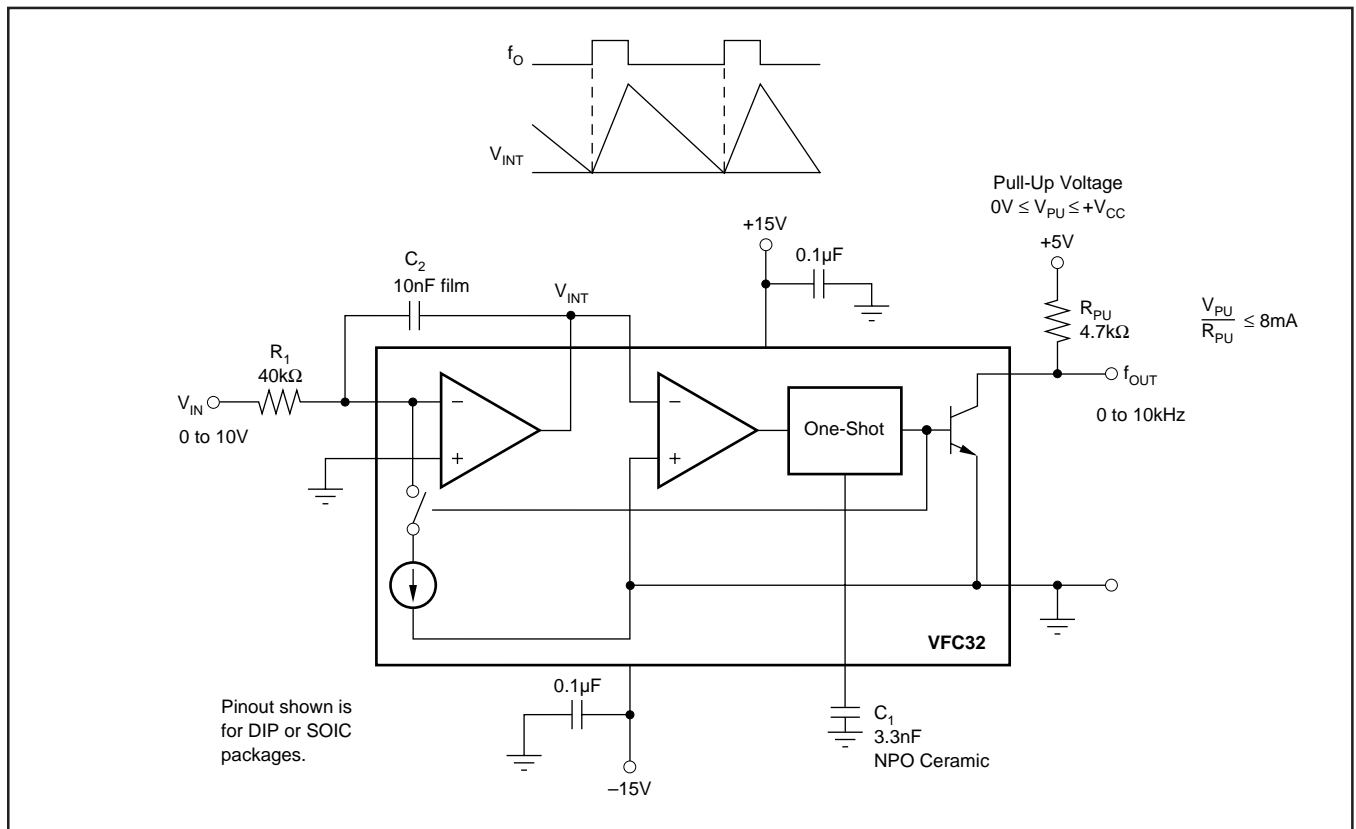
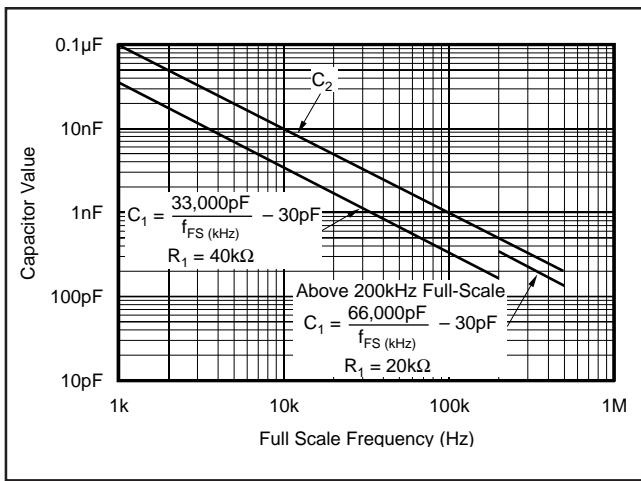
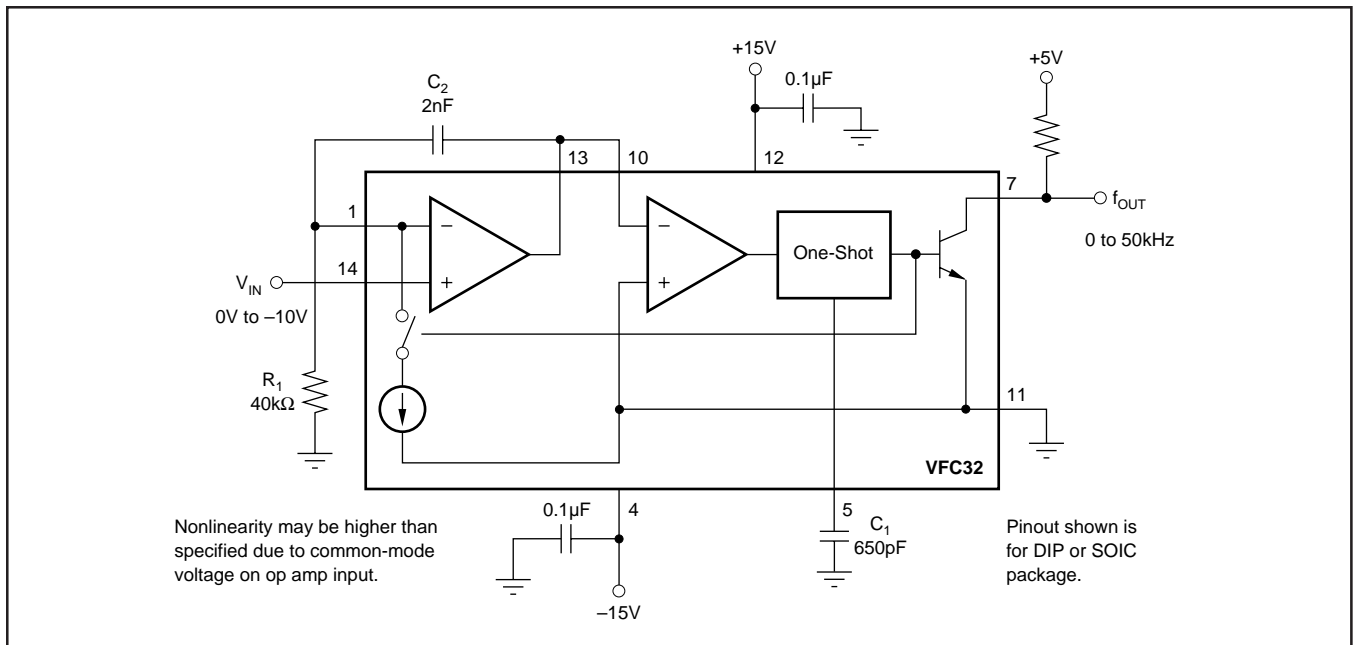

FIGURE 1. Voltage-to-Frequency Converter Circuit.
FIGURE 2. Capacitor Value Selection.
FIGURE 5. V/F Converter—Negative Input Voltage.
NOTES: (1) A 25% duty cycle (0.25mA input current) is recommended for best linearity. (2) Adjustable to zero. See Offset and Gain Adjustment section. (3) Linearity error is specified at any operating frequency from the straight line intersecting 90% of full scale frequency and 0.1% of full scale frequency. See Discussion of Specifications section. Above 200kHz, it is recommended all grades be operated below +85 $^\circ\text{C}$ . (4)  $\pm 0.015\%$  of FSR for negative inputs shown in Figure 5. Positive inputs are shown in Figure 1. (5) FSR = Full Scale Range (corresponds to full scale frequency and full scale input voltage). (6) Exclusive of external components' drift. (7) Positive drift is defined to be increasing frequency with increasing temperature. (8) For operations above 200kHz up to 500kHz, see Discussion of Specifications and Installation and Operation sections. (9) One pulse of new frequency plus 1 $\mu\text{s}$ .
Figure 1 shows the basic connection diagram for frequency-to-voltage conversion.  $R_1$  sets the input voltage range. For a 10V full-scale input, a 40k $\Omega$  input resistor is recommended. Other input voltage ranges can be achieved by changing the value of  $R_1$ .
The full-scale output frequency is determined by  $C_1$ . Values shown in Figure 1 are for a full-scale output frequency of 10kHz. Values for other full-scale frequencies can be read from Figure 2. Any variation in  $C_1$ —tolerance, temperature drift, aging—directly affect the output frequency. Ceramic NPO or silver-mica types are a good choice.
For full-scale frequencies above 200kHz, use larger capacitor values as indicated in Figure 2, with  $R_1 = 20\text{k}\Omega$ .
The value of the integrating capacitor,  $C_2$ , does not directly influence the output frequency, but its value must be chosen within certain bounds. Values chosen from Figure 2 produce
approximately 2.5Vp-p integrator voltage waveform. If  $C_2$ 's value is made too low, the integrator output voltage can exceed its linear output swing, resulting in a nonlinear response. Using  $C_2$  values larger than shown in Figure 2 is acceptable.
The value of  $C_1$  is chosen from Figure 2 according to the full-scale input frequency.  $C_2$  smooths the output voltage waveform. Larger values of  $C_2$  reduce the ripple in the output voltage. Smaller values of  $C_2$  allow the output voltage to settle faster in response to a change in input frequency. Resistor  $R_1$  can be trimmed to achieve the desired output voltage at the full-scale input frequency.